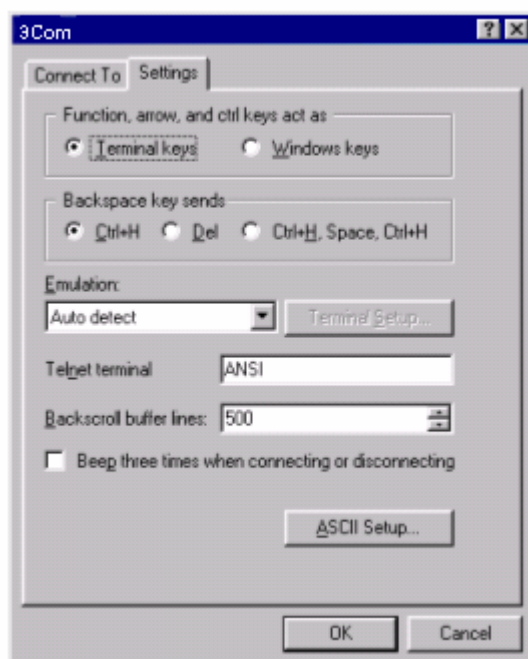

Figure 4-5 Set the terminal type
Step 8: In the **Properties** dialog box, select the **Settings** tab, as shown in Figure 4-5.